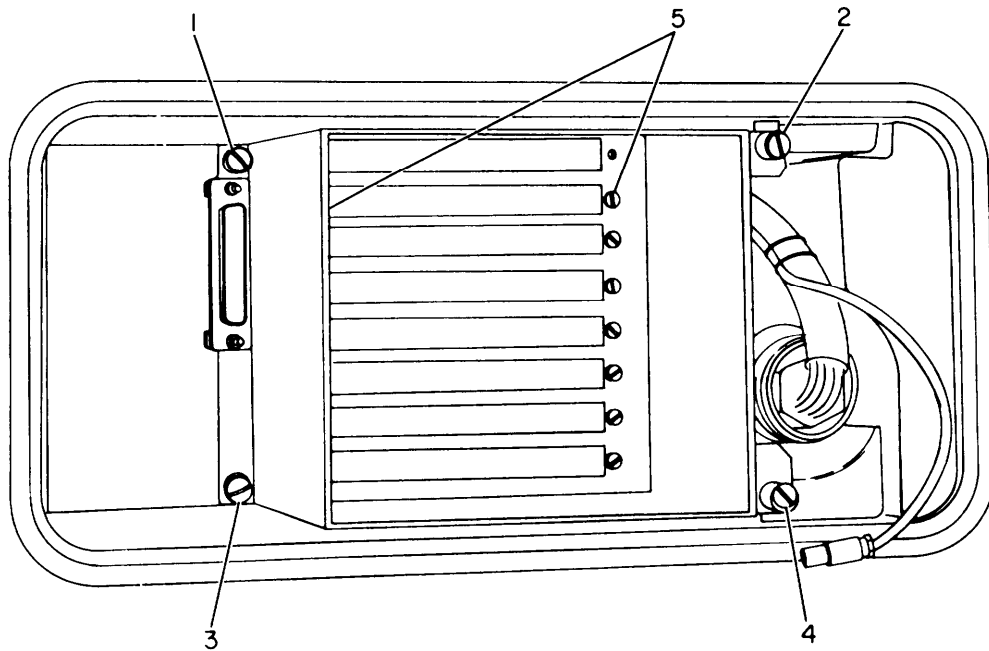

Figure 4-19. Digital and Power Supply Section,
e. Remove four slotted mounted screws (1, 2, 3, and 4, figure 4-19).
g. Remove two screws (5, figure 4-19) and disengage Circuit-board connector at the bottom of card cage, opposite screws hidden from view. (Follow this procedure for each connector in card cage.)